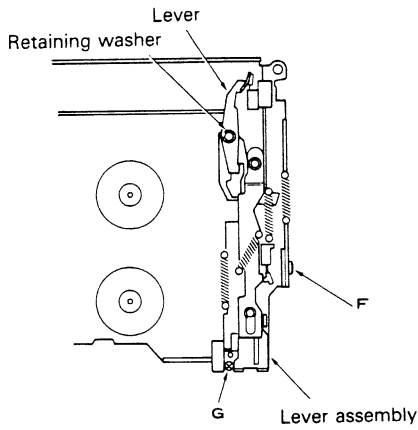

Fig. 5
1. Remove the lever by removing the retaining washer (Figure 5). Next, remove the screws labeled "F" and "G" in the same figure and lift the lever assembly upward. Pull the head unit in the direction indicated by the capstan to remove the lever assembly.